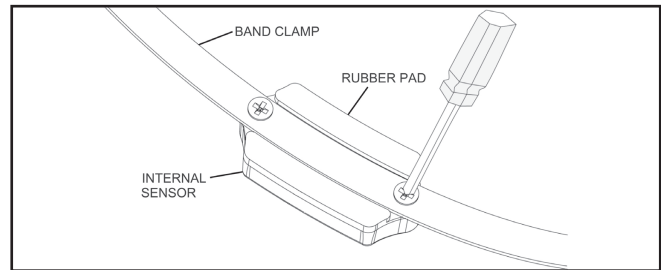

Figure 1: Internal Sensor Rubber Pad
3. If the sensor is not already attached to the band, attach the sensor to the band clamp with the two screws. Torque the screws to 10-12 in-lbs (1.1-1.4Nm) See *Figure 1*.